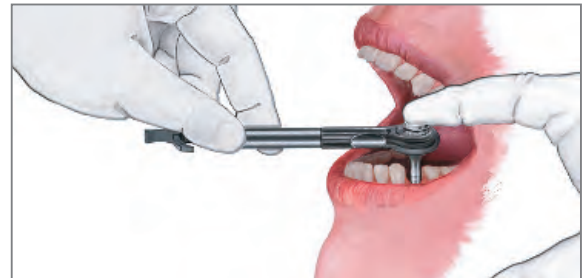

Figure 5
**Clinical Tip:** A thumb or forefinger should be placed on top of the Ratchet Wrench with light downward pressure applied (Figure 5). This helps ensure continued full engagement of the driver, prevents implant wobble during insertion and assists in keeping the orientation in the proper plane.